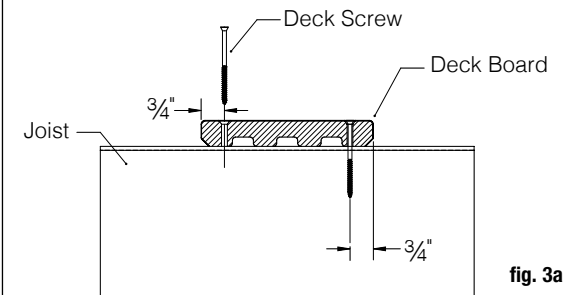

fig. 3a
A) Standard Surface Fastening: Use two fasteners per deck board at each joist. It is required that screws be placed 3/4" from both edges to ensure screws are in the thickest lobed area (fig. 3a)